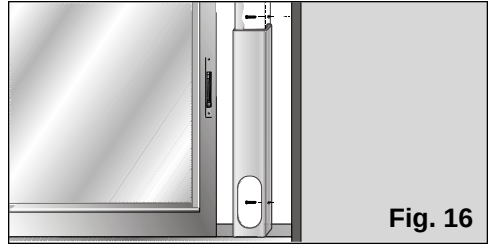

Fig. 16
- The accessory has two holes on the side to fit it to the window / balcony with. The user can secure it to the frame or wall with two screws (not included with the accessory) to prevent it from moving or falling out of place, **Fig. 16.**